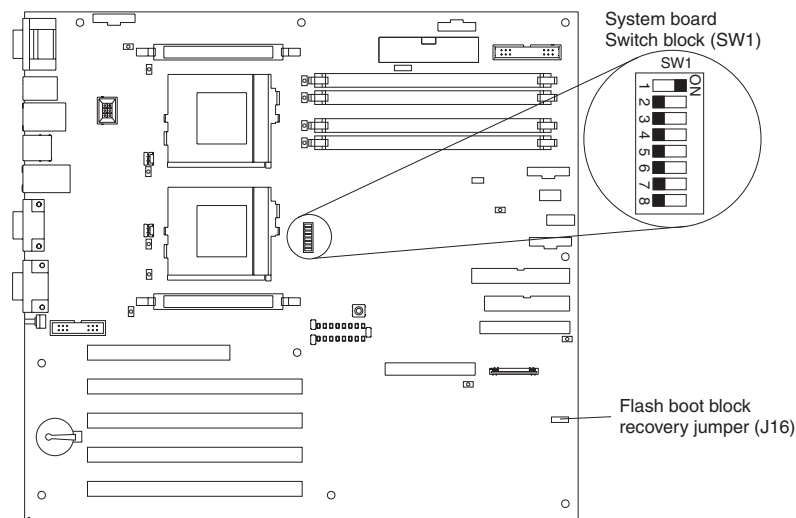

Figure 3. Boot block jumper location
2. Locate the boot-block jumper block (J16) on the system board. See Figure 3.
Figure 3 shows the location of the boot block jumper on the system board.